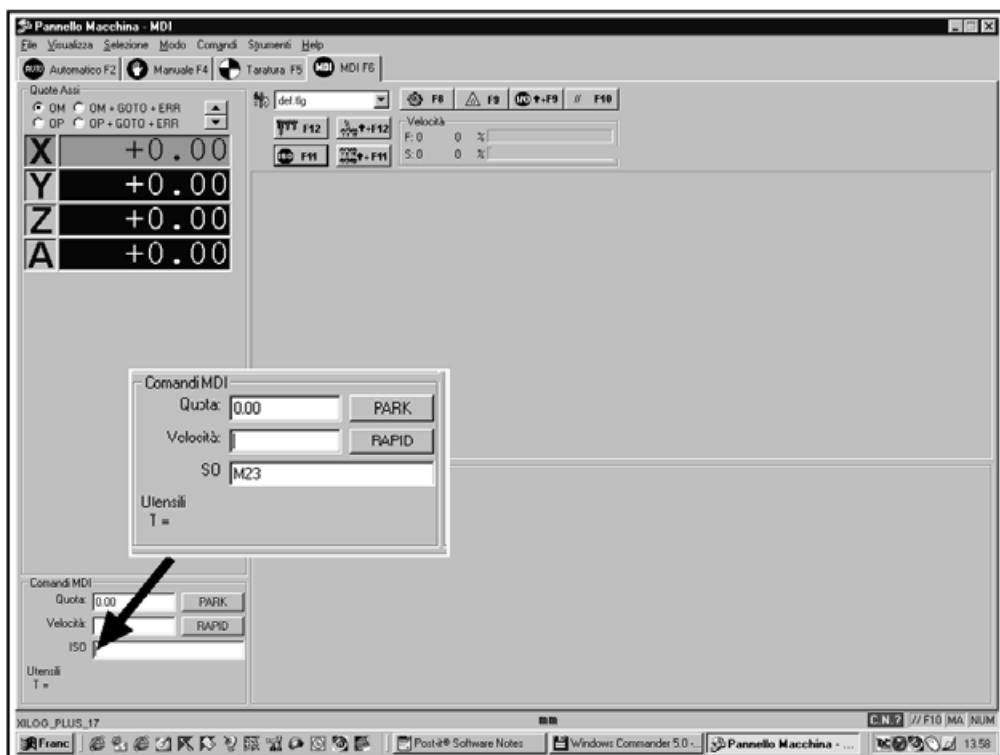

Fig. 4.7e
- from the basic menu press key "F6" to activate the "MDI" state (Fig. 4.7e)